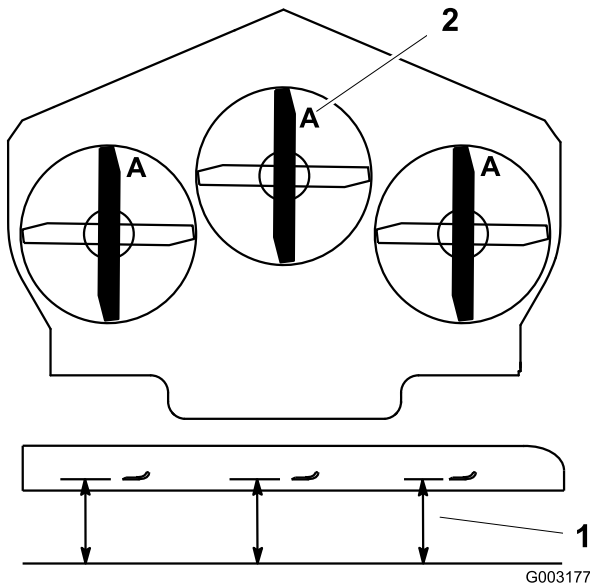

Figure 82
3. Rotate the blades until the ends face forward and backward (Figure 82). Measure from a level surface to the cutting edge, position **A**, of the blades (Figure 82). Note this dimension.